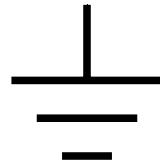

Figure 1-29. Symbol for ground
*Ground* has many names, all of which mean the same thing: *0V*, *minus terminal*, *earth*, and *GND*. Black wire is often used to connect to the ground (red is used for positive voltage). In a circuit, ground is marked with its own symbol (shown in Figure 1-29) to avoid having to always draw a line to the minus terminal.